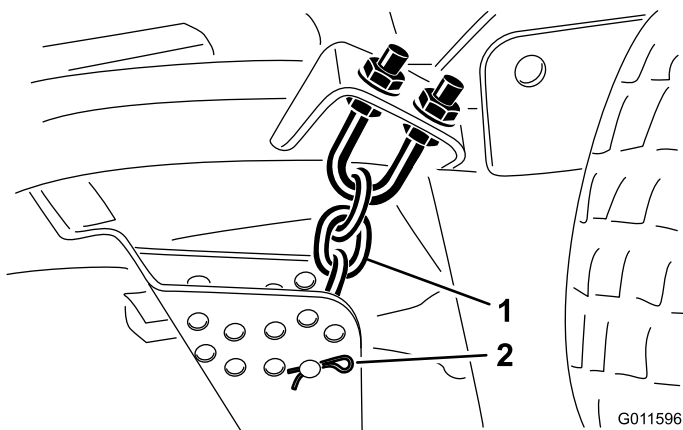

Figure 7
8. Remove the hair pin cotters and clevis pins securing the height-of-cut chains to the rear of the cutting unit (Figure 7).